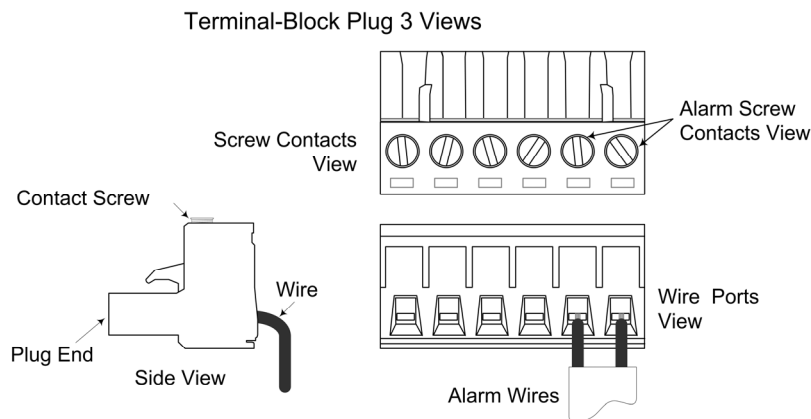

Figure 10: Alarm Relay Wiring
3.	Wire the alarm as shown in Figure 10.